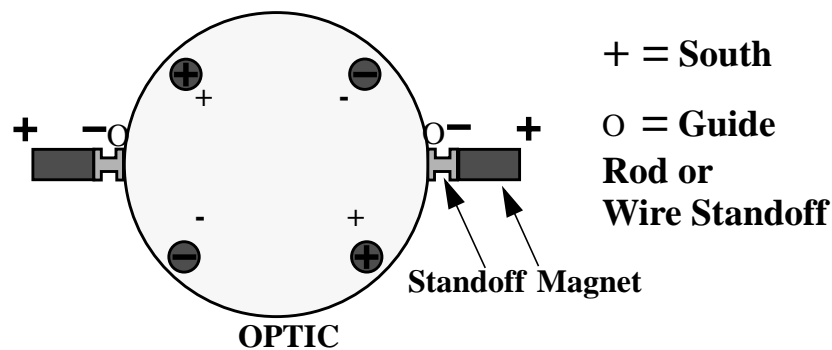

Fig. 1. Configuration of the magnet/standoff assembly as viewed from the back side (AR surface).
14. Prepare the Grippers with Magnets: Insert the magnets into the grippers, magnet first, leaving the dumbbell standoff protruding from the end. Lay the grippers out in such a way so that you keep track of which gripper holds which type of magnet (N or S). Make sure that each magnet /dumbbell standoff are inserted into the grippers equal amounts. (In other words, don't have one magnet /dumbbell standoff sticking out of the gripper further than another set.) See Figure 1 below for polarity layout. The magnets are placed so that polarities of the magnets alternate; this is to prevent the mass from being shaken in position and orientation, by time-varying ambient magnetic fields.